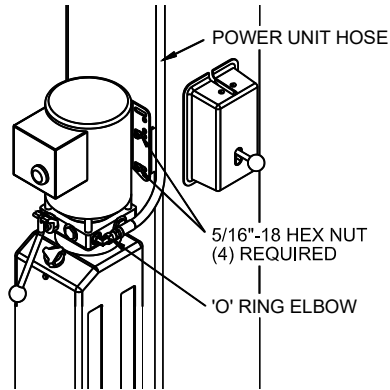

Fig. 10 – Power Unit Mounting
27) Mount Power Unit to power column as shown in **Fig. 10**. The mounting hardware, (4) 5/16"-18 hex nuts, are pre-installed on power unit mounting bracket.
30) Thread 9/16-18 O-ring elbow (*in hardware box*) into power unit. Attach free end of power unit hose to elbow. See **Fig 10**. **CAUTION** do not damage rubber O-ring.